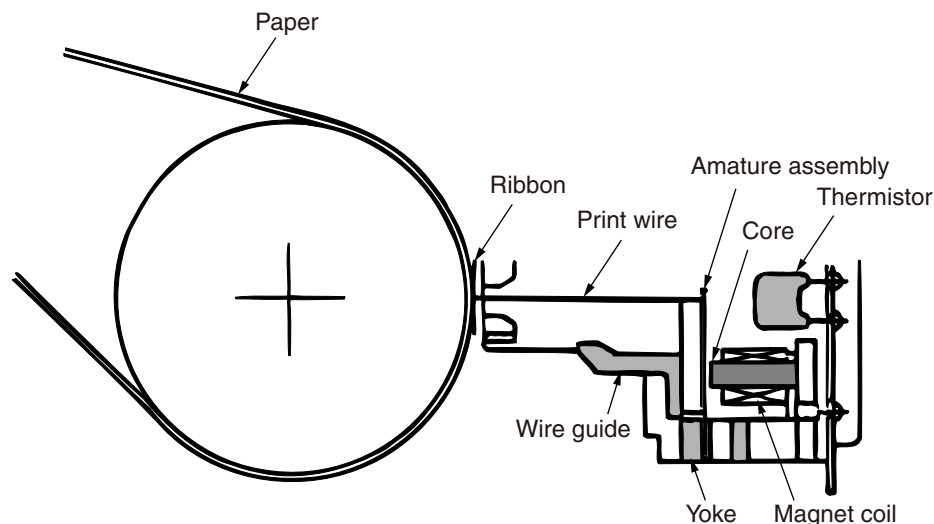

Figure 3
2.2.1 The Printhead Mechanism and Its Operation (see figure 3)